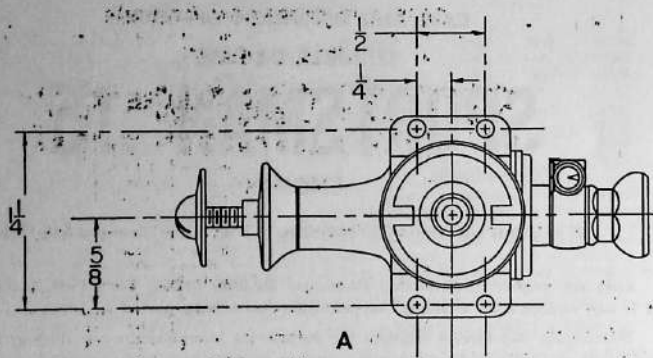

Fig. 1
- Mount the engine in the plane or, if you want to give it some running first, mount it on a suitable mount. Do not hold the engine directly in a vise. Use as a template, A-Fig. 1, to drill mounting holes. The screened nut, B-Fig. 1, in the rear is the air intake hole and must be left open.
1. Close the carburetor needle valve, C-Fig. 1, by turning it clockwise till it stops. Do not force it.